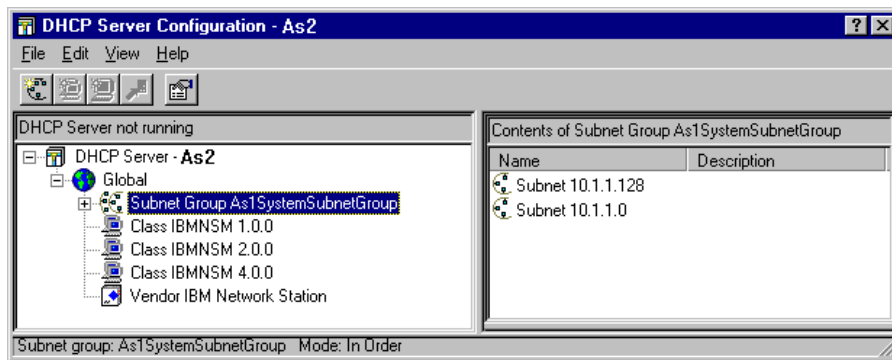

Figure 96. DHCP Configuration - Showing Contents of Subnet Group
6. Click **OK**. The resulting DHCP display is shown in Figure 96 on page 187.